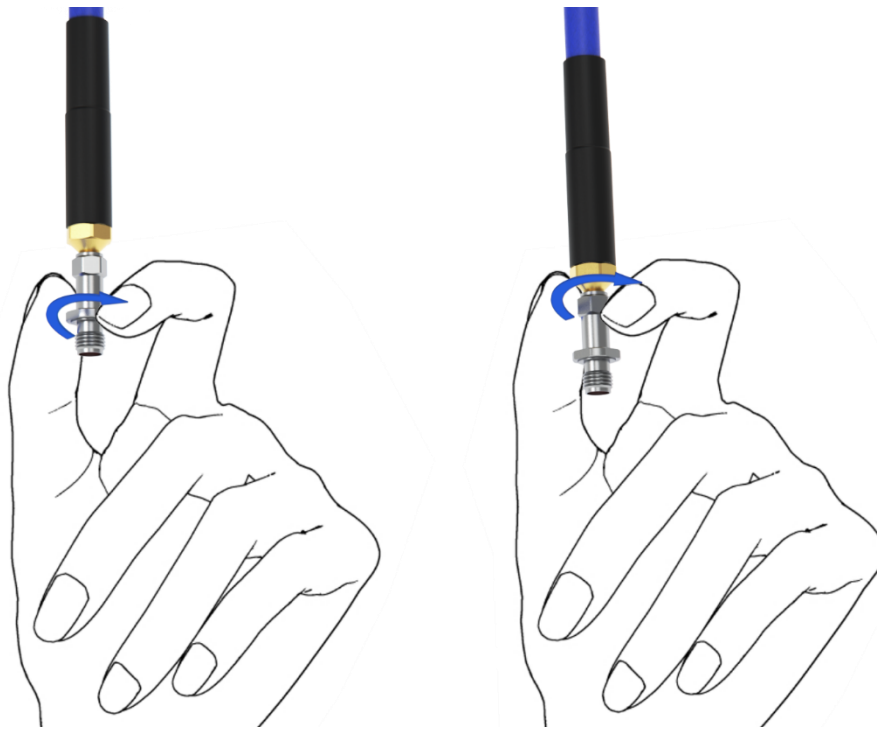

Figure 3: 1.0 mm adapter in axial alignment being threaded onto the cable connector improperly (left), and properly (right).
- a. **Never rotate, twist or spin the body of an adapter as shown in Figure 3 (left), always rotate the nut as shown in Figure 3 (right).** Twisting or spinning 1.0 mm components when interconnecting them can inflict major damage on their center conductors.
- b. Always stabilize the body of an adapter or cable when turning a connector to make a connection (note: stabilizing mechanisms are not shown in Figure 3 for illustration purposes).